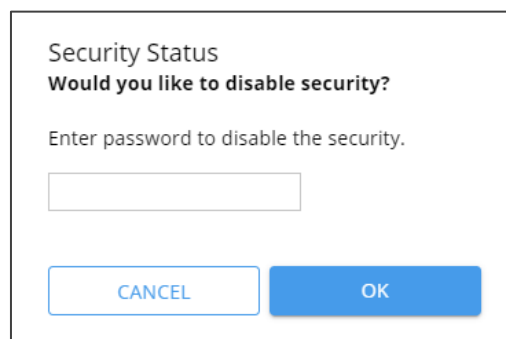

Figure 28: Security Status Message
1. Go to the Security >Device Security (Figure 28).
1. Go to the Security page (Figure 28).
- 1. In the Navigation pane, click **Security**. The Device Security tab appears (Figure 28).